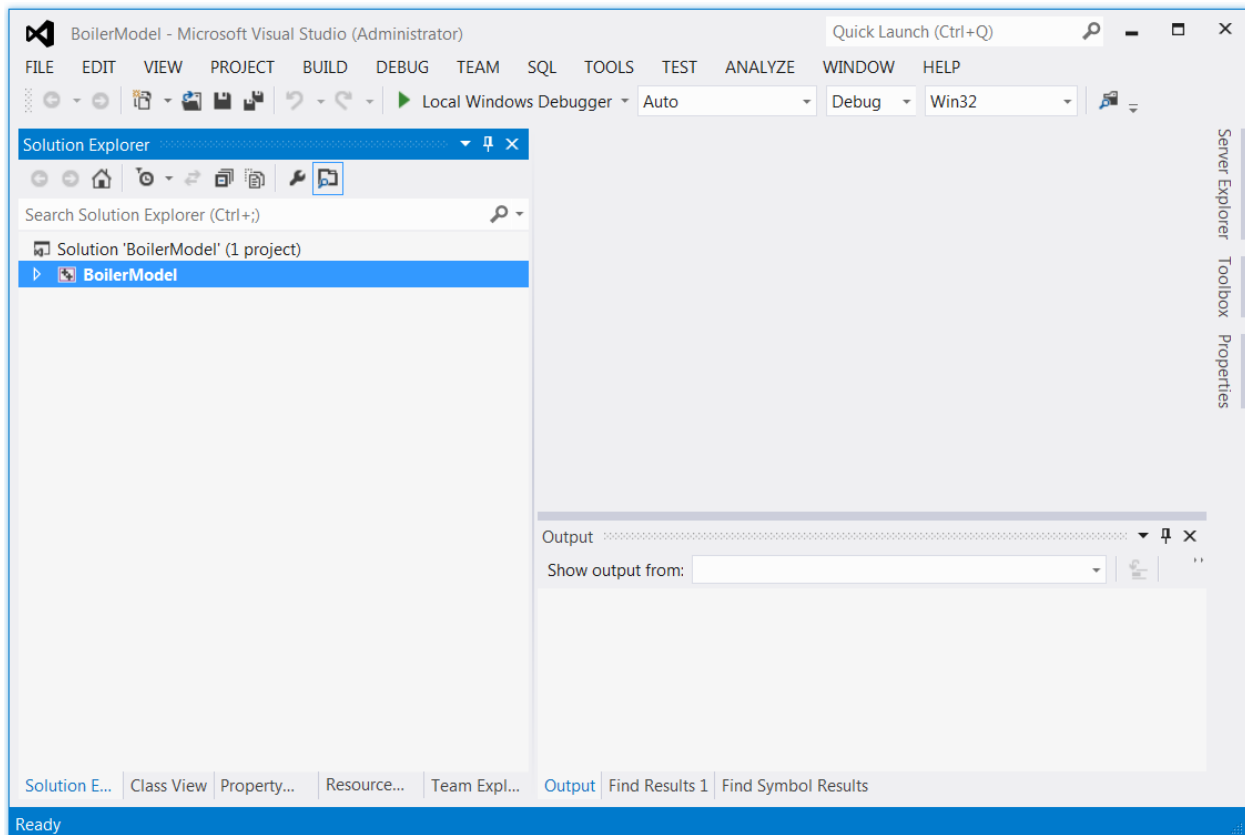

Figure 1. Visual Studio Window for Boiler Model Project
1. Open the visual studio solution file “BoilerModel.sln” and Microsoft Visual Studio GUI displays as shown in Figure 1.